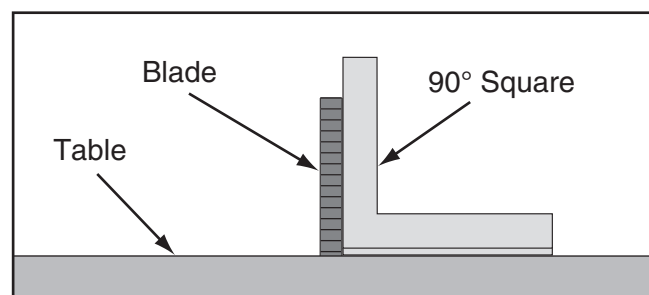

Figure 102. Checking blade at 90°.
3. Place a 90° square against the table and blade so it contacts the blade evenly from bottom to top, as shown in **Figure 102**. Make sure a blade tooth does not obstruct the placement of the square.